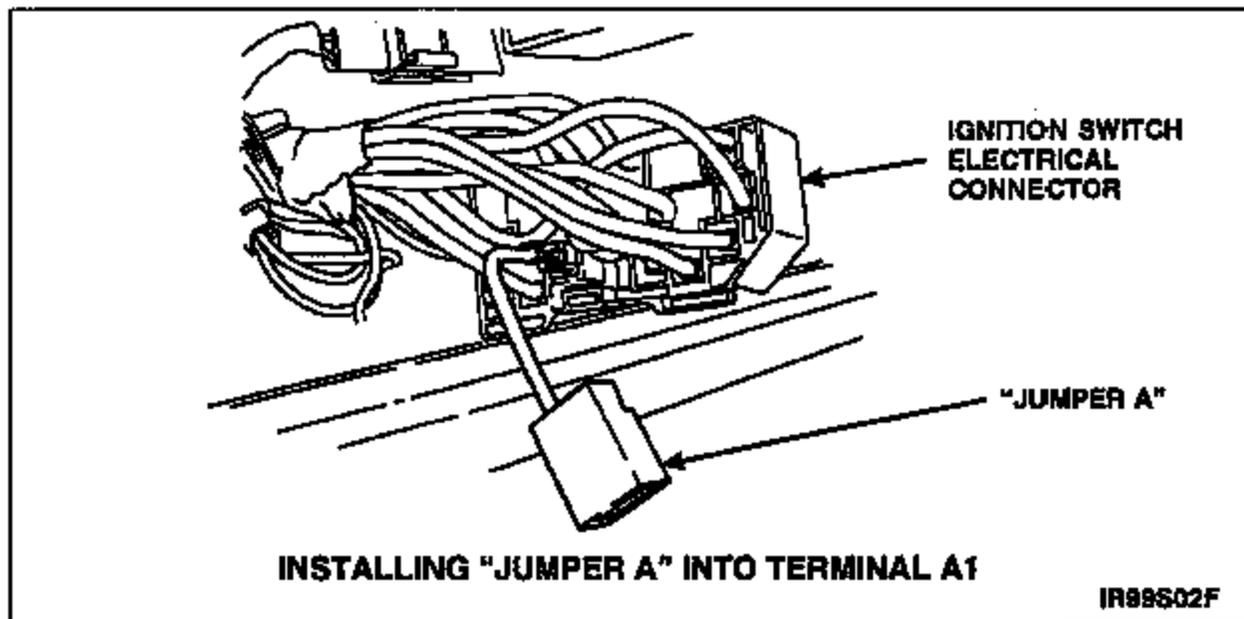

FIGURE 6
8. Install black/light green wire of "Jumper A" into terminal A1 of ignition switch electrical connector. See Figure 6.